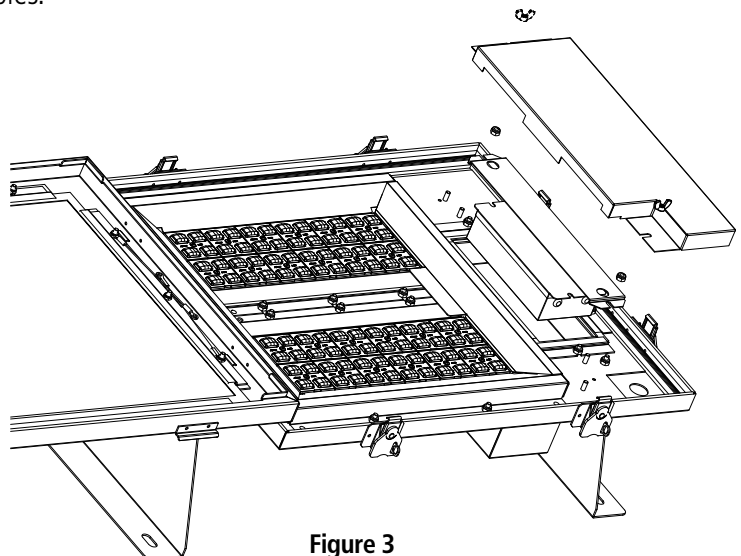

Figure 3
2. Loosen wing nuts and remove Wiring Cover. See Figure 3.
4. Remove the retaining strap which secures the driver. See figure 3.